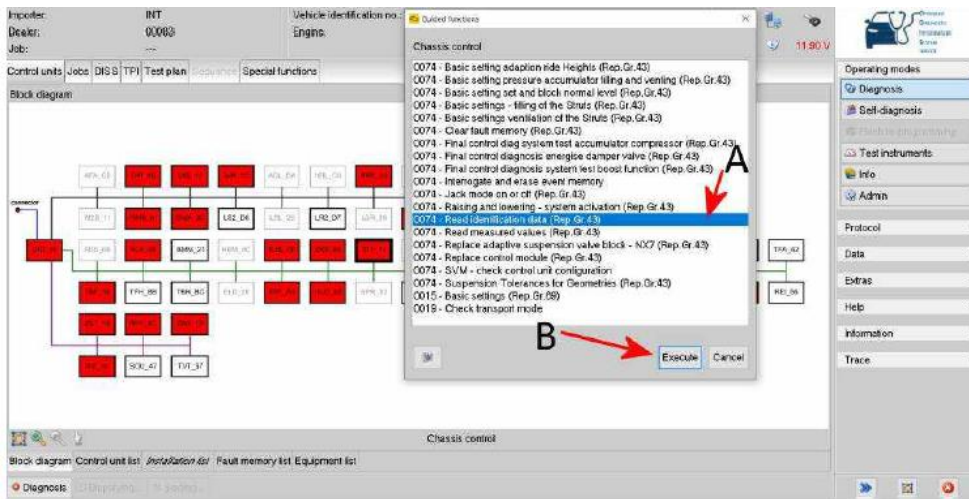

Figure 8
7) Referring to Figure 8 - Select the Read identification data test (Point A)